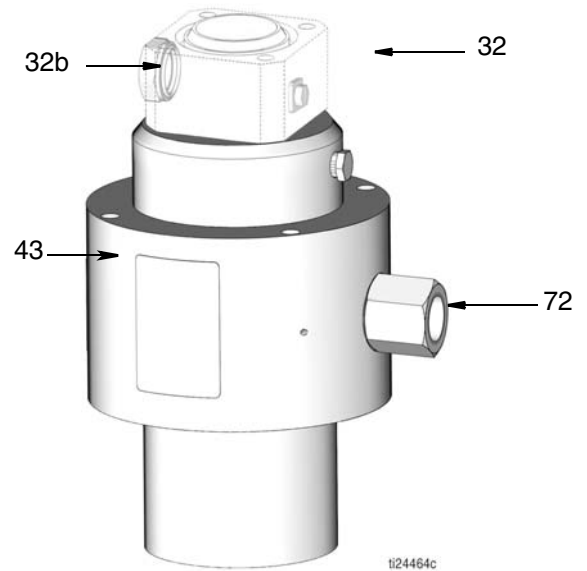
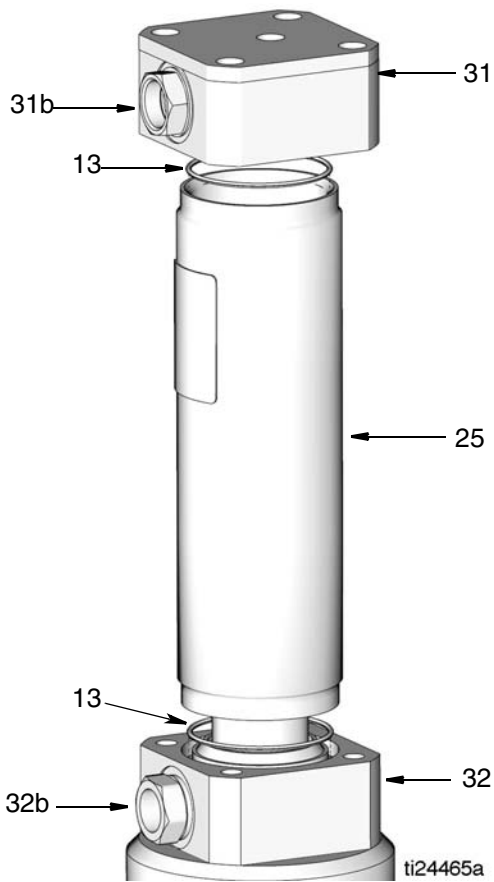

FIG. 14
FIG. 15
NOTE: When attaching the motor housing (43) onto the bottom cylinder cap (32), be sure that the adapter (72) in the motor housing and the port (32b) in the bottom cylinder cap are facing opposite directions as shown in FIG. 14.
3. Install seal (44) on retainer nut (11). Install retainer nut in pump adapter (8) (FIG. 14). Torque retainer nut to 54 to 56 ft-lbs (73-75 N.m).
4. Slide bottom cylinder cap (32) onto the cylinder (25) ensuring the tie rods (38) go through their respective holes in the top cylinder cap (31).
NOTE: When attaching the bottom cylinder cap (32) onto the cylinder (25) be sure that the port (31b) in the top cylinder cap (31) and the port (32b) in the bottom cylinder cap (32) are in line with each other. Be sure o-rings (13) are in place in the top and bottom cylinder caps as shown in FIG. 15.